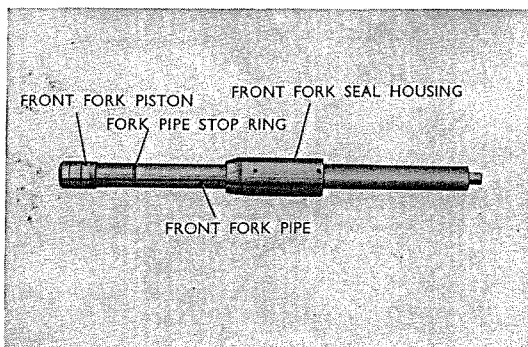

Fig. 4.20 Front fork pipe assembly
1. Couple the front absorber valve and front fork piston and install it on the front fork pipe (complete) by the front pipe limit ring. (Refer to Fig. 4.20)